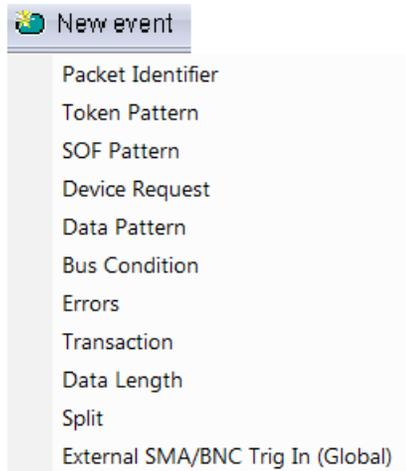

Figure 10.27: New Event Pop-up Menu.
1. Click the **New Event** button at the left side of the toolbar to display the New Event pop-up menu (see Figure 10.27 on page 409).